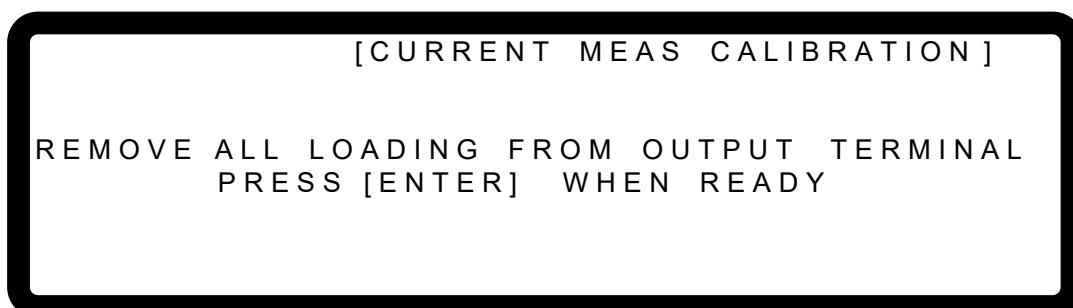

Figure 3-103
3. Press " " to confirm and entering into current calibration options as Figure 3-103 shows.